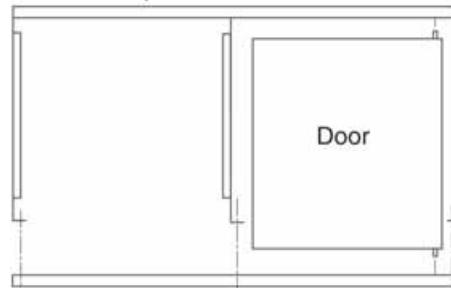

FIG.5
- 5 Whilst in this position, attach two legs, one to each corner, then turn the structure so that it rests on its back once again and attach the two front legs. FIG5
- 7** Using the empty carton as a clean base, place the worktop (1) face down - pre-drilled holes uppermost and attach the drawer guides (14) using the wood screws provided, ensuring they are tight. The drawer runners should face each other.